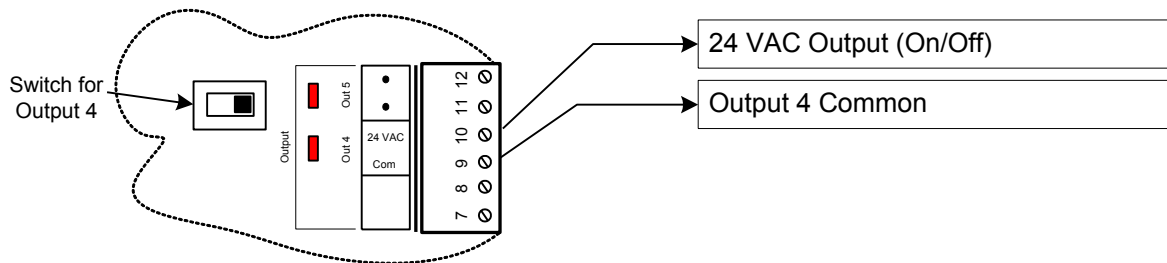

Figure 4: Output in SOURCE mode
1) Switch position to obtain a SOURCE **active output** (see Figure 4):